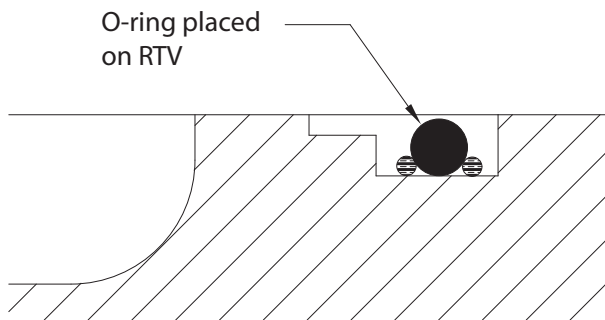
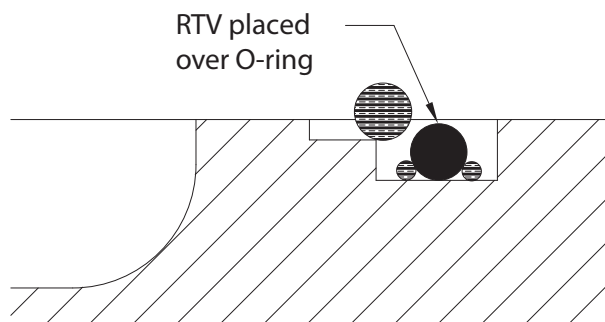

Figure 12
Figure 13
- 4.5.6.4 Install the O-rings (I.D. and O.D.) on top of the sealant, working them into position so that they lay flat in the bottom of the groove. See Figure 12. A second bead of sealant .060"-.090" (1,5 mm - 2,3 mm) in size should then be applied in the shallow groove. See Figure 13.